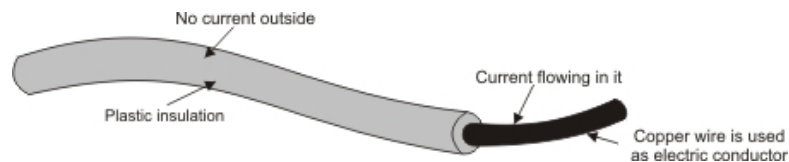

Fig.2.3: Electrical Conductivity Copper wire is used as electric conductor
- (vii) **Electrical conductivity** is the capacity of metal to conduct an electric current. A measure of electrical conductivity is provided by the ability of a metal to conduct the passage of electrical current. Consider the case of electric cable shown in figure 2.3, where insulation of cable is done with plastic, as it is poor conductor of electricity and the copper wire is used for conducting the electric current. The units of electrical conductivity are mho/m where mho is the reverse of ohm, the unit for electrical resistance.